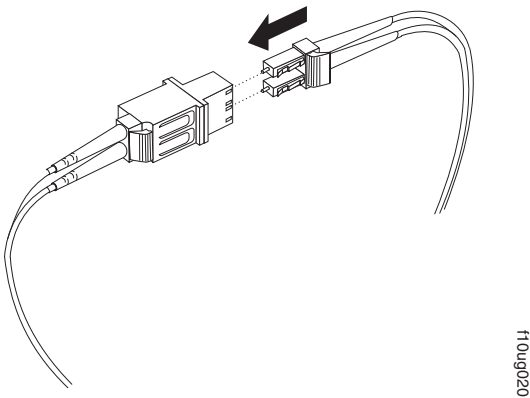

Figure 45. Connecting an LC-LC cable into the LC-SC cable adapter
4. Carefully insert the other end of the LC-LC cable into the LC connector end of the LC-SC cable adapter as shown in Figure 45. Push in the connector until it clicks into place.